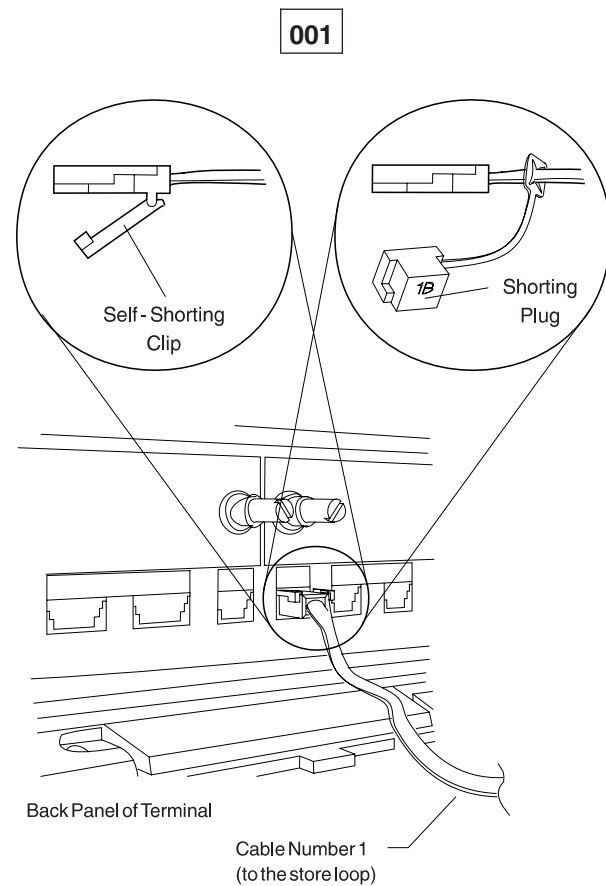

Figure 45. Mod1 Terminal Store Loop Cable 1 and Shorting Plug 1B
- Attach shorting plug 1B to the terminal-end of the cable. See Figure 45 on page 532.